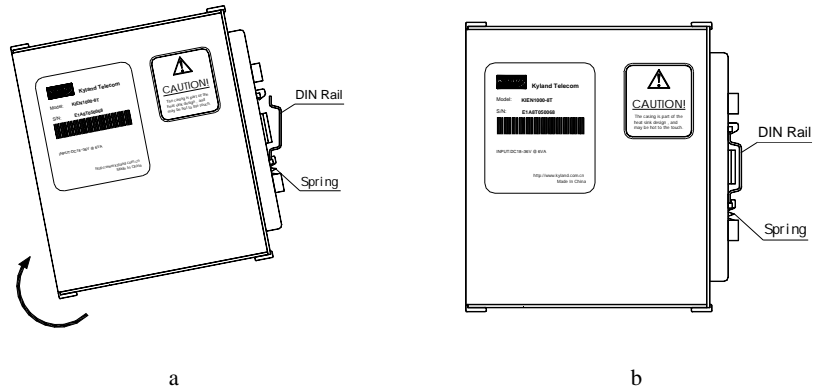

Figure 4-2 Mounting KIEN5000 on DIN rail
1. Insert the lower part of DIN rail into the fixing slot with spring supporting in the lower part of the DIN rail connector socket. Slightly rotate the equipment upwards from bottom panel of KIEN5000 as shown in Figure 4-2 a.
2. As shown in Figure 4-2 b, clip DIN rail into the DIN rail connector socket, and ensure that KIEN5000 equipment has been reliably mounted on DIN rail.